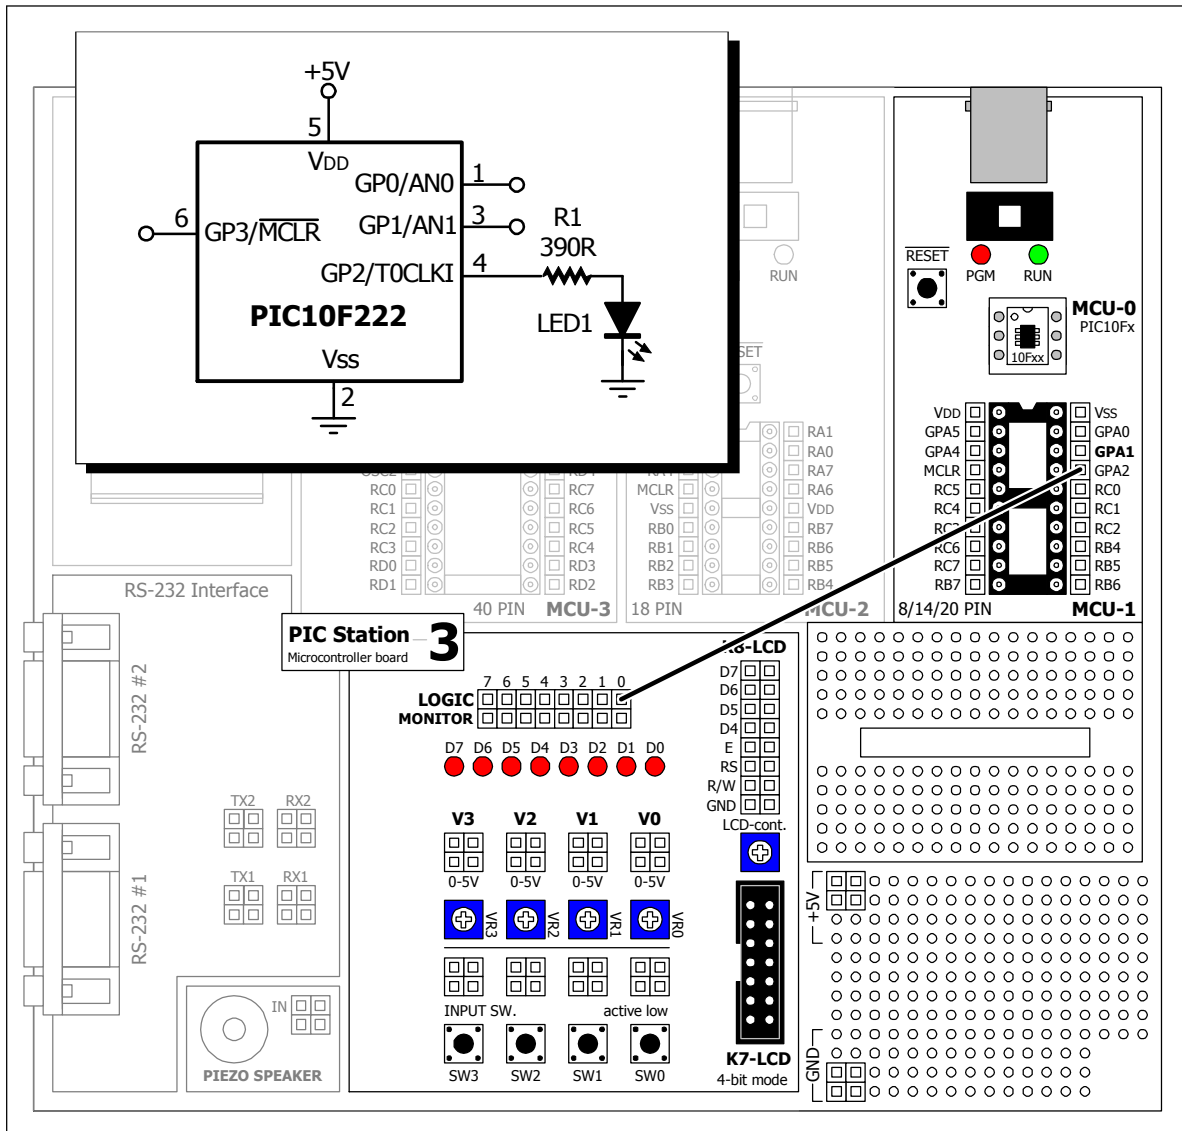

Figure 10 : The example testing circuit for PIC10F222
- (1) Construct the circuit following the figure 10 on the PIC Station-3 board.
- (2) After downlaoding the HEX file , select the mode to run mode.
- (3) Observe the LED at GP2 pin operation.